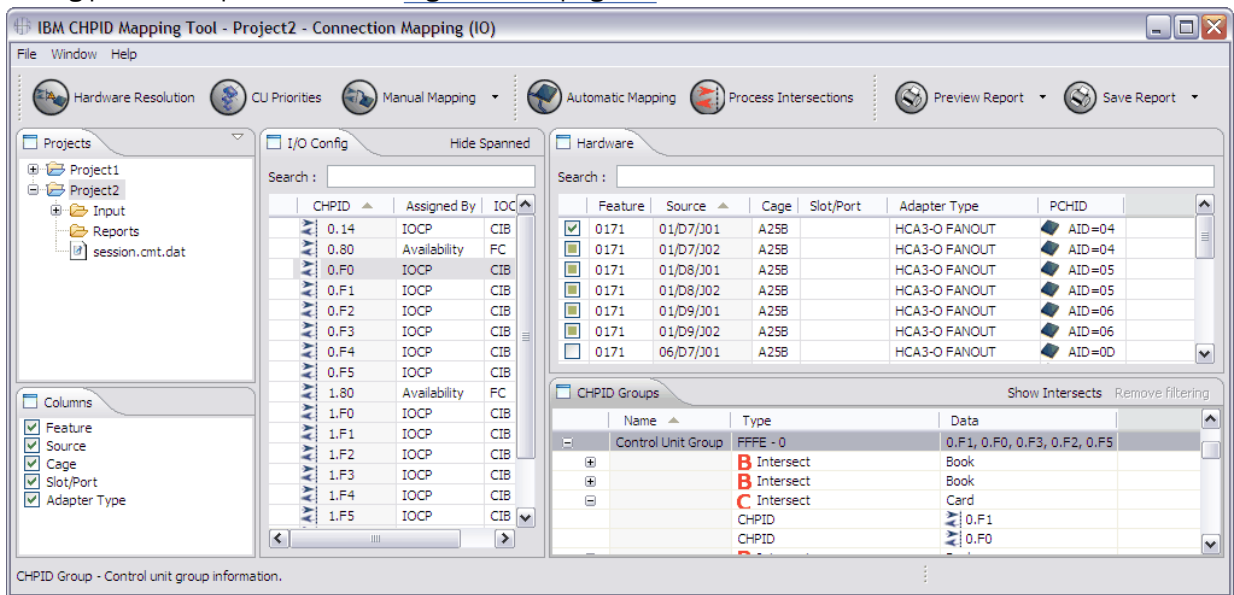

Figure 90. Removing filtering
- If you want to undo filtering, click **Remove Filtering** in the CHPID Groups pane. This returns the I/O Config pane to its previous state. Figure 90 on page 73 shows this.